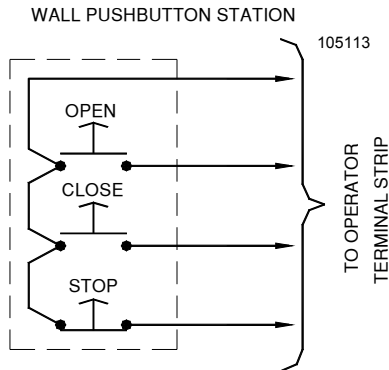
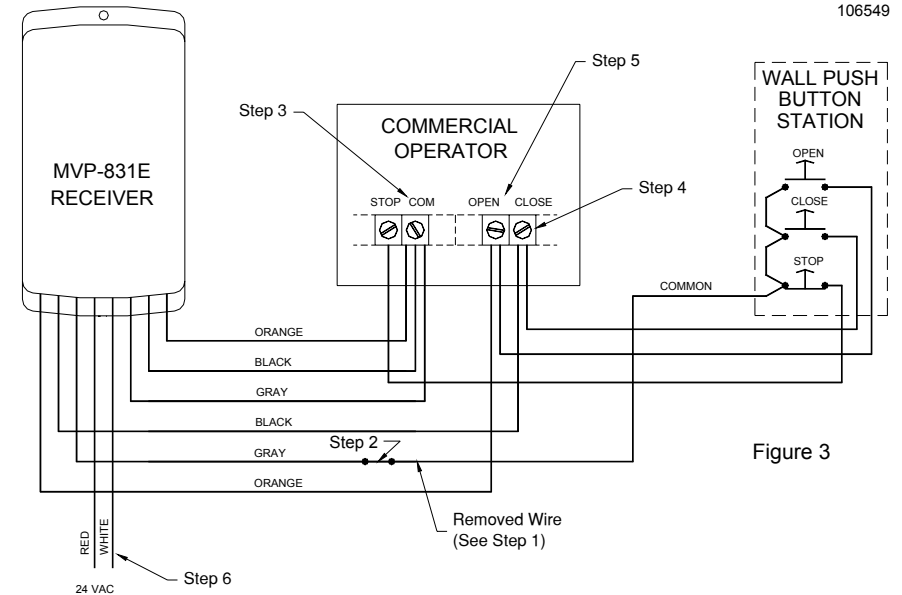

Figure 2
Figure 3
- Check the wire & connections in the STOP circuit. Refer to Figure 3.
Typical 4-wire 3-button stations are wired as shown in Figure 2. Number 18 gauge wire or heavier must be used for wiring the control stations and the MVP-831E receiver to the door operator. Smaller gauge wire may cause operational problems, especially when multiple 3-button stations are used. For typical installations the MVP-831E receiver is mounted near the door operator, away from any high voltage conduits or steel support beams. For wiring, follow the steps below and refer to Figure 3.
3. Connect the following wires from the MVP-831E to the operator 3-button COMMON (as shown in Figure 3):